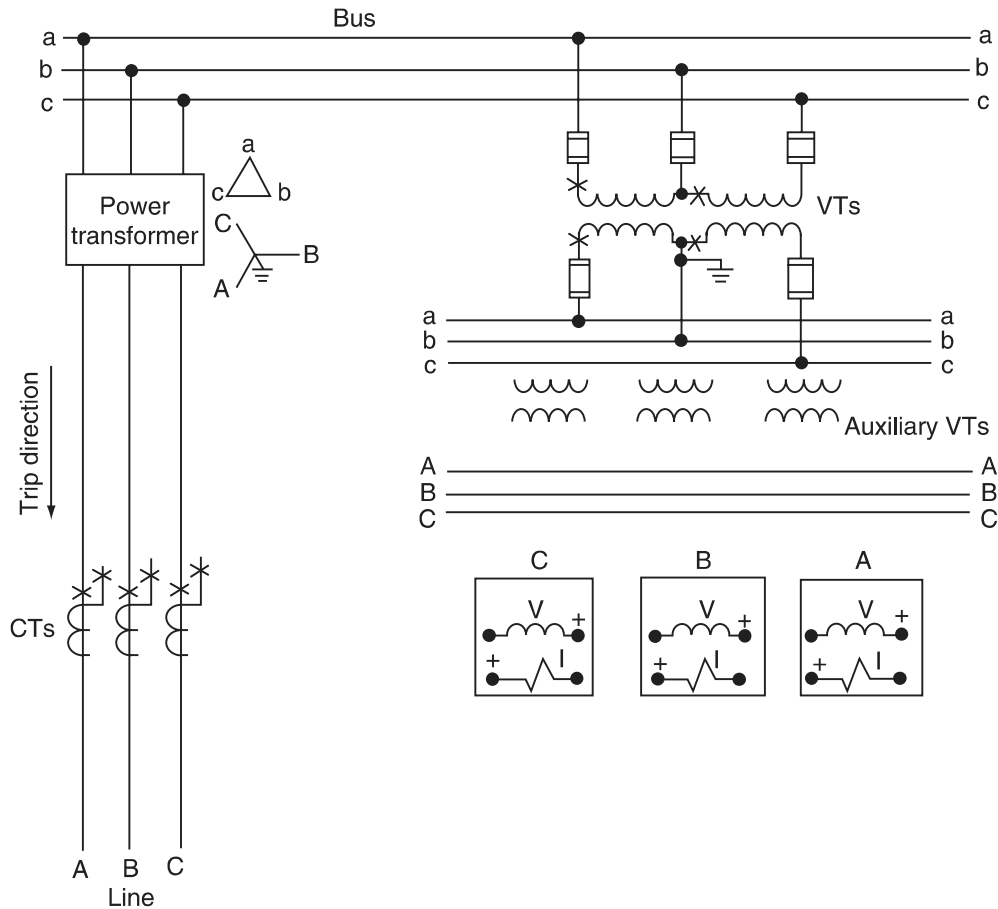

FIGURE P3.3
- 3.4** The power transformer connections shown in Figure P3.3 are non-standard and quite unusual with today's standardization. However, this connection provides an excellent exercise in understanding phasors, polarity, and directional sensing relay connections.